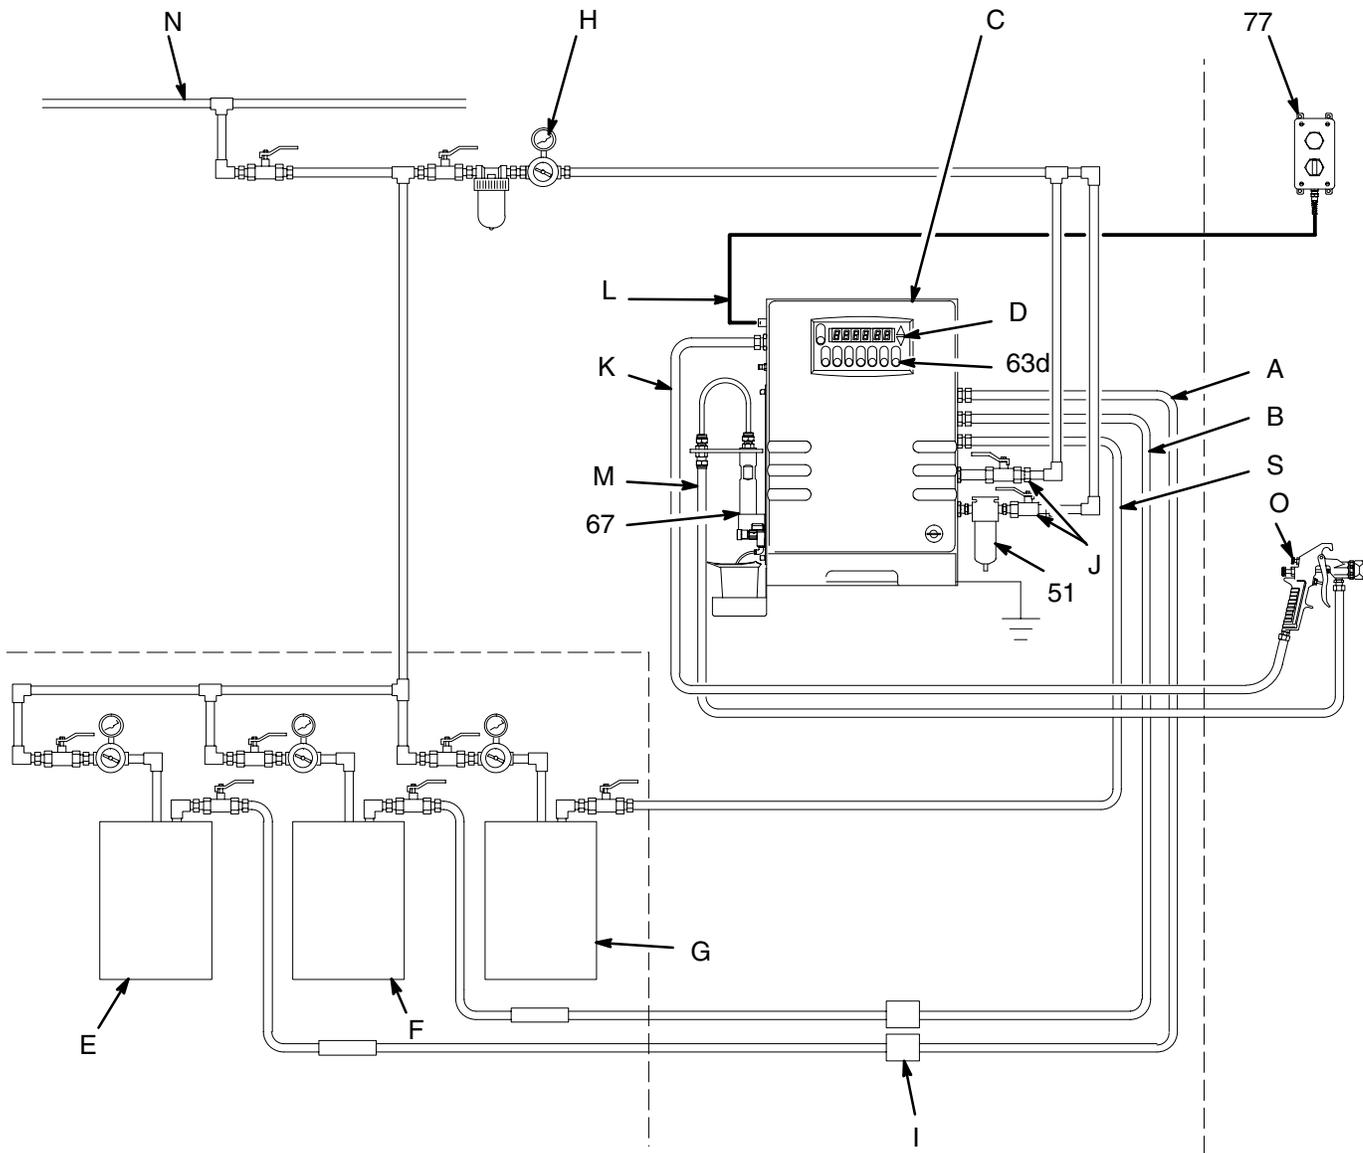

Fig. 1
- Fig. 1 shows a typical installation. It is not an actual system design. To design your system, contact your Graco representative.
- A 100 mesh fluid minimum fluid filter (l) must be installed on the component A and component B fluid supply lines. See Fig. 1.
The Typical Installation shown in Fig. 1 is only a guideline for selecting and installing system components and accessories, and is not an actual system design. Follow the installation schematic in the system binder provided by Graco or contact your Graco representative for assistance.
8. Connect the fluid supply lines to the ProMix control connectors. See Fig. 1 and 3.
9. Connect fluid and air supply lines to the spray gun. See Fig. 1 and 4.
- a. Connect the gun fluid supply line (M) between the manifold's static mixer outlet (P) and the gun fluid inlet.